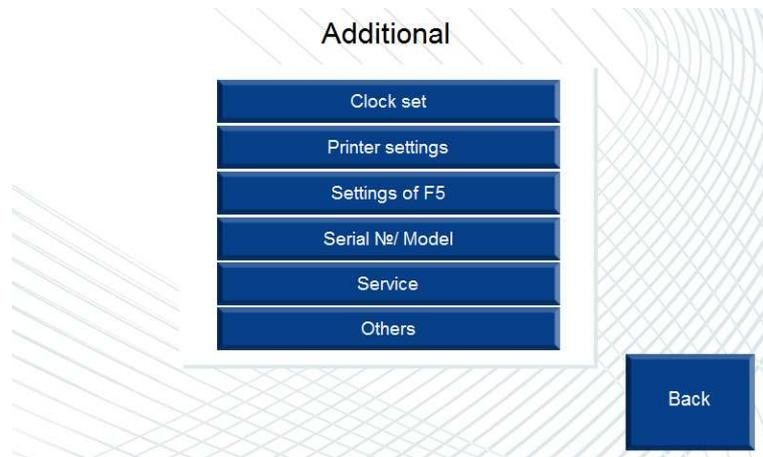

Fig. 35
**Back** – pressing this button returns to the "Additional" menu (Fig. 35).
**Back** – pressing this button returns to the "Additional" screen (Fig. 35).